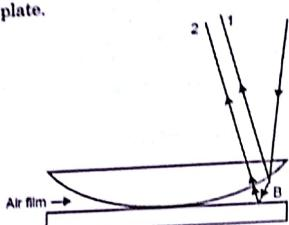

Fig. 1.9.1 : Formation of Newton's rings
- As shown in Fig. 1.9.1, let AB be a beam of monochromatic light of wavelength λ incident normally on the film. As a result of reflection at the top and bottom faces of the film, rays 1 and 2 are the coherent rays which interfere in the reflected system. For constructive interference, the path difference between them should be